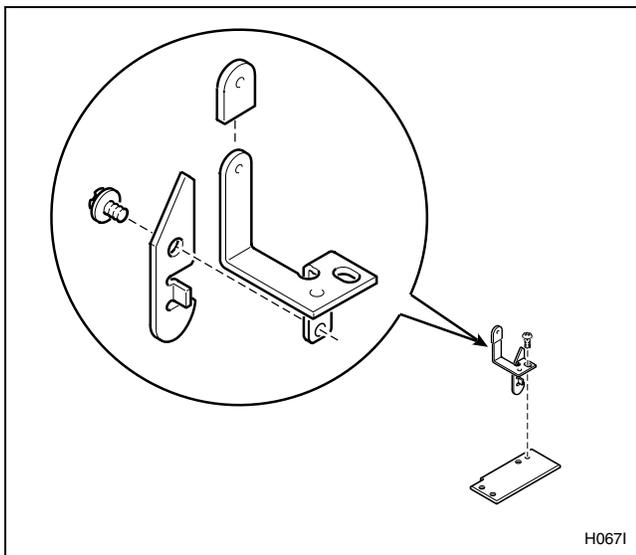

Figure 2
**NOTE: Refer to Figure 2 for steps 2 through 4.**